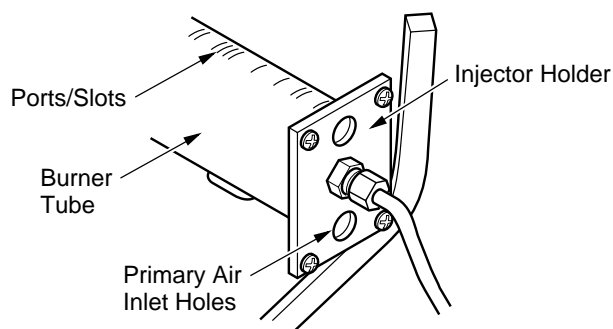

Figure 41 - Injector Holder On Outlet Burner Tube
2. Inspect burner, pilot, and primary air inlet holes on injector holder for dust and dirt (see Figure 41).